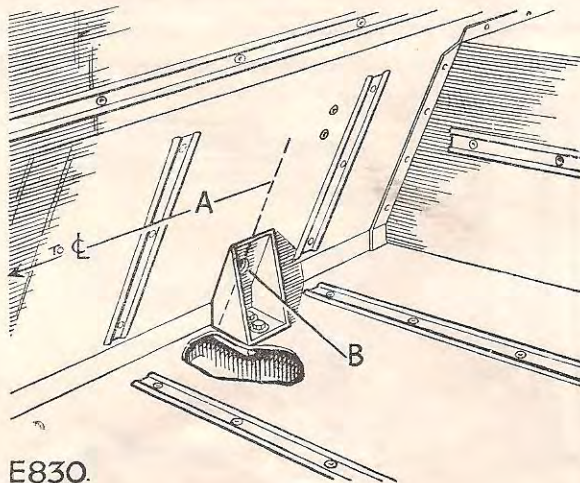

Fig. 11. Bulkhead gusset in position. R.H. illustrated.
5. Mark off a centre line of vehicle on body floor, adjacent to seat bulkhead—then mark off a position $10\frac{1}{4}$ in. (260 mm) from the centre line toward body side, as shown in Fig. 11.